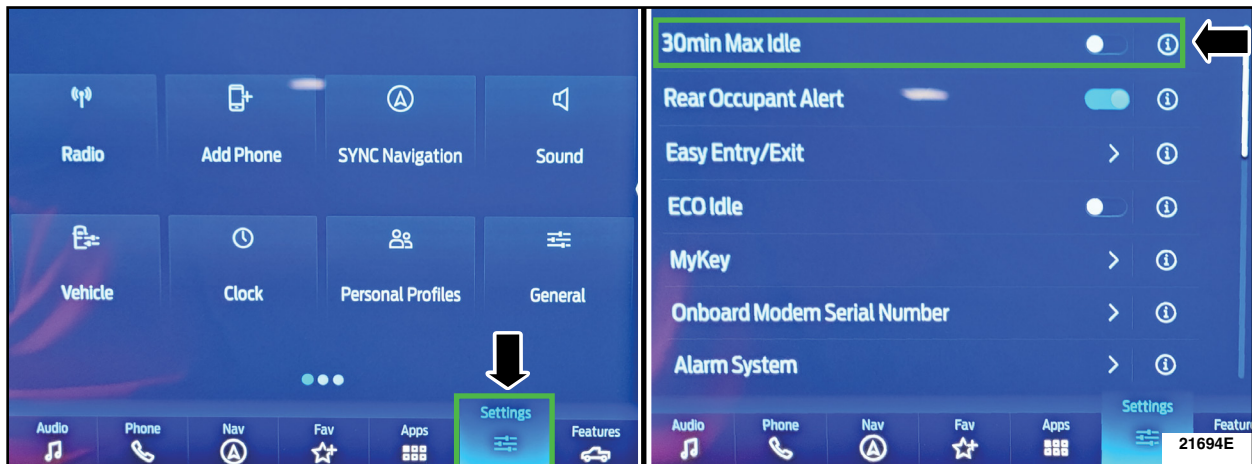

FIGURE 2
1. From the vehicle settings menu disable the 30 minute max idle option. From the center display press the vehicle settings button and turn off the 30 minute max idle setting. See Figure 2.